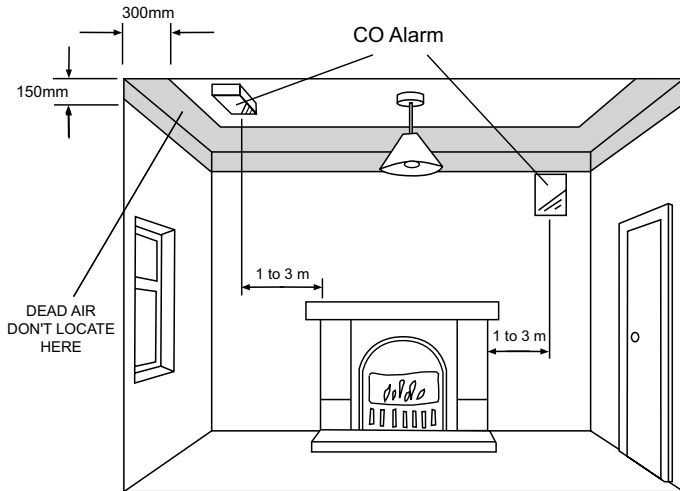

Figure 1. Location in room with a fuel burning appliance
3.3 IF LOCATING THE CO ALARM IN A ROOM WITH A FUEL BURNING APPLIANCE (see Figure 1)